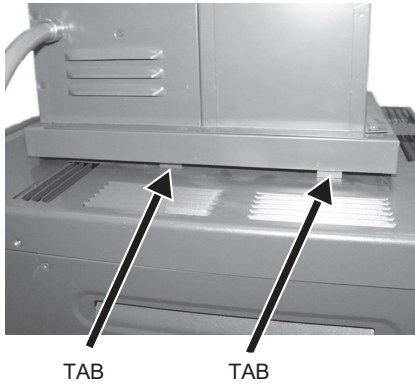

Figure 13. Tab Location
11. Push in all four bracket tabs, so the Power Vent locks into position. See **Figure 13**.